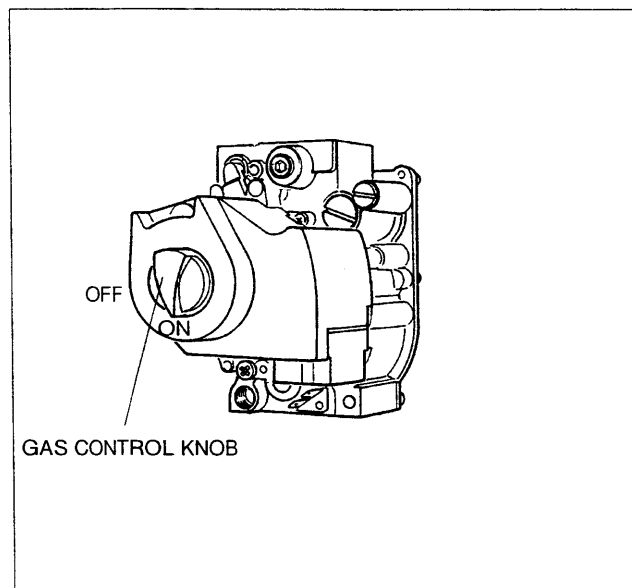

Fig.3
5. Turn the gas control knob clockwise  to "OFF", fig.3. **Do not force.**
6. Wait five (5) minutes to clear out any gas. Then smell for gas, including near the floor. If you smell gas, **STOP!** Follow "B" in the safety information printed page 2. If you do not smell gas, go to the next step.
7. Turn the gas control knob counterclockwise  to "ON", fig. 3. **Do not force.**
4. Turn the gas control knob clockwise  to "OFF", fig. 3. **Do not force.**